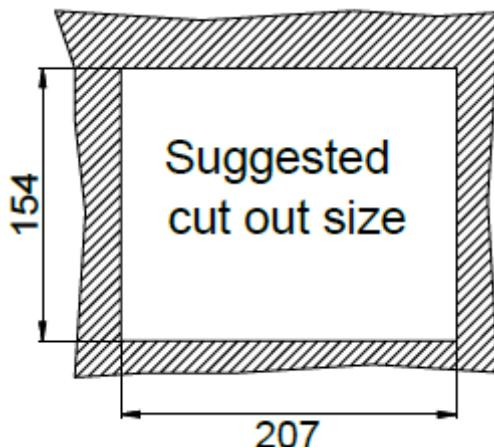
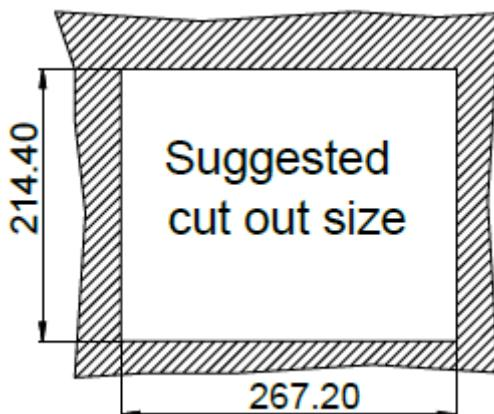

Figure 3-23: PPC-F08B-BT Panel Cutout Dimensions
Figure 3-24: PPC-F10B-BT Panel Cutout Dimensions
Step 3: Cut out a section of the panel that corresponds to the rear panel dimensions of the PPC-F08B/F10B-BT. The recommended cutout sizes are shown below (Figure 3-23 and Figure 3-24).